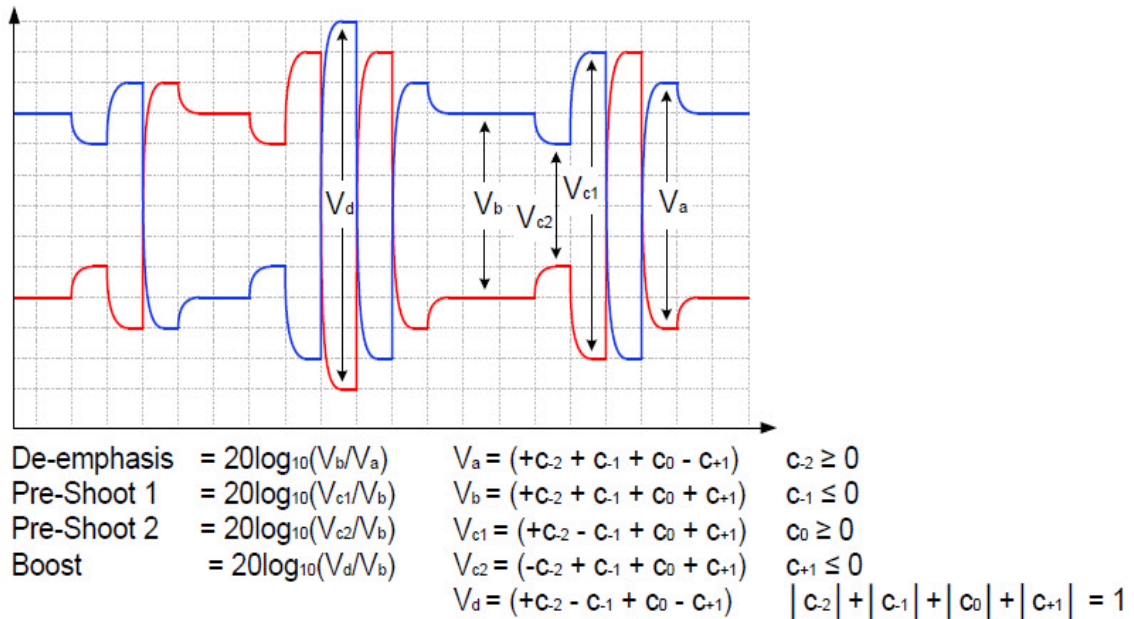

Figure 25 Waveform measurement points for preshoot and de-emphasis
64.0 GT/s PCIe signaling must support the full range of presets given in Table 8-2 (PCIe Base Specification Revision 6.0). Presets are defined in terms of ratios, relating the pre-cursor and post-cursor equalization voltages. The pre-cursor (Vc) is referred to as pre-shoot, while the post-cursor (Vb) is referred to as de-emphasis. This convention permits the specification to retain the existing 2.5 GT/s and 5.0 GT/s definitions for Tx equalization, where only de-emphasis is defined, and it allows preshoot and de-emphasis to be defined such that each is independent of the other. The tolerances in Table 8-1 (PCIe Base Specification Revision 6.0) also apply to 2.5 and 5.0 GT/s de-emphasis. The maximum swing, Vd, is also shown to illustrate that, when both c₊₁ and c₋₁ are nonzero, the swing of Va does not reach the maximum as defined by Vd. The high frequency nature of PCIe signaling makes measurement of single UI pulse heights impractical. Consequently all amplitude measurements are made with low frequency waveforms as shown in Figure 25.
- 13 Computes their equalization voltages by using Matlab, and then calculates equalization ratios by using the formulae stated in Figure 25 (Figure 8-6 of the spec).